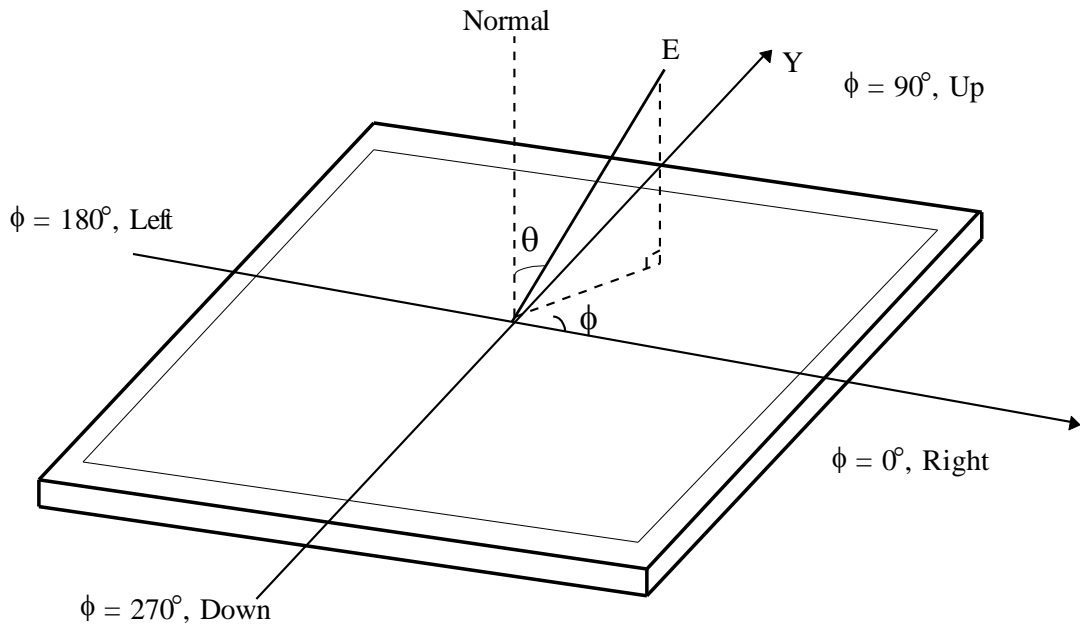

FIG. 4 Viewing Angle
5. Viewing angle is the angle at which the contrast ratio is greater than 10. The angles are determined for the horizontal or x axis and the vertical or y axis with respect to the z axis which is normal to the LCD module surface. For more information, see the FIG. 4.
6. Half Luminance Angle is a angle of half luminance compare to center luminance at 255 gray. For more information, see the FIG. 4